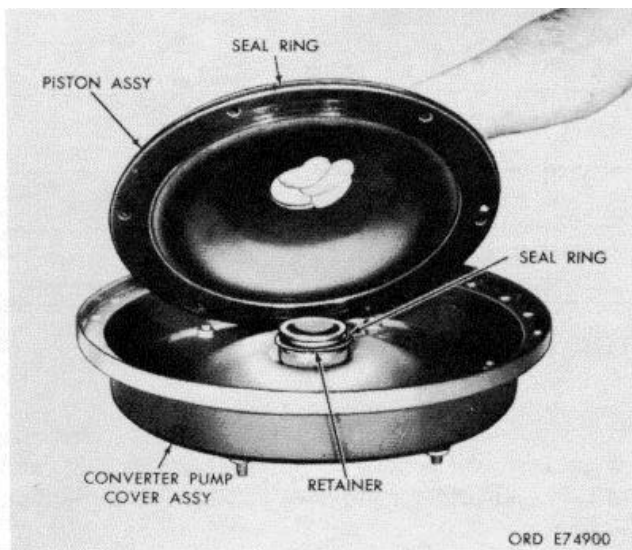

Figure 7-1. Removing (or installing lockup clutch piston assembly).
a. Compress the center part of lockup clutch piston assembly (11) by hand and remove retaining ring (12) with snpring pliers.
b. Remove lockup clutch piston assembly (11) from converter pump cover assembly (5). Refer to figure 7-1.
c. Remove seal ring (10, FO-3) from lockup clutch piston assembly (11). Lay the sealring flat after removal so it will not stretch.
d. Remove preformed packing (9) from the hub of pump cover assembly (5). Also remove seal retainer (8), if loose, or for replacement. Refer to figure 7-1.
Refer to figure 7-1.
c. Install preformed packing (9, FO-3) over the hub of pump cover assembly (5) into seal retainer (8). Refer to figure 7-1.
d. Install sealing (10, FO-3) into the outer diameter groove in lockup clutch piston (11). Refer to figure 7-1.
e. Install lockup clutch piston assembly (11, FO-3), with sealing (9) in place, into converter pump cover assembly (5). Refer to figure 7-1.